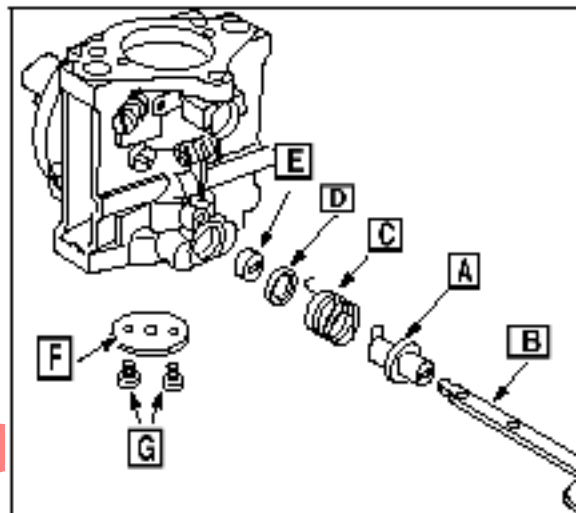

Fig. 105
Assemble retainer ([A] Fig. 105) on choke shaft (B).
shaft. Secure with two screws ([G] Fig. 105).